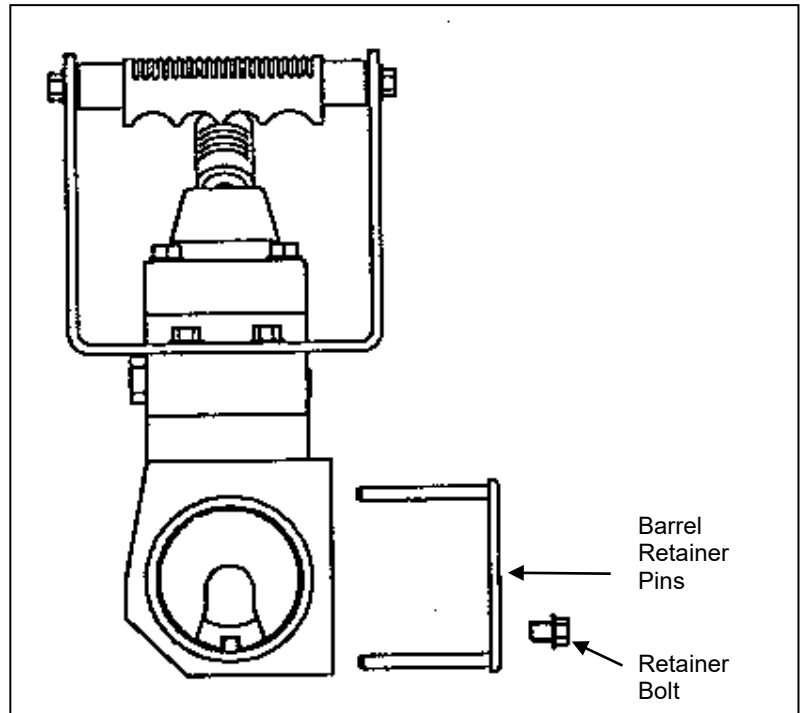

Figure 4.5-1
- a. Unscrew the barrel retainer bolt and remove the two joined barrel retainer pins located on the housing just behind the barrel (refer to Figure 4.5-1).